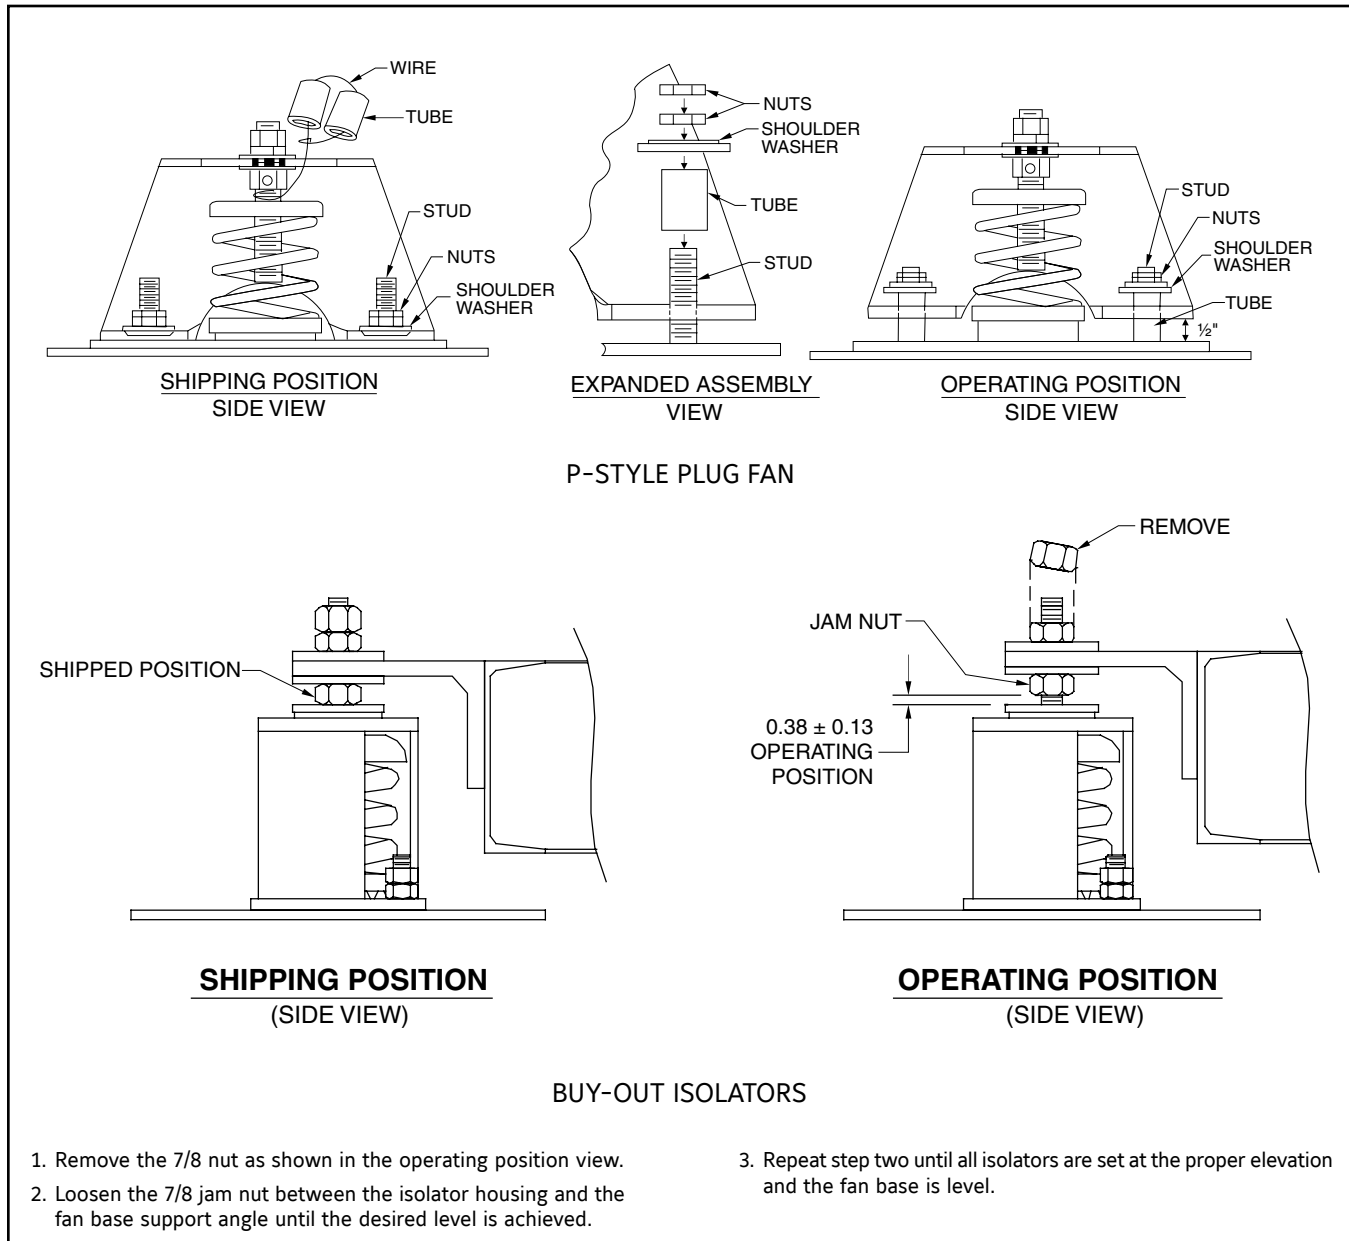

Figure 27 – Spring Isolator Setup
If fans are supplied with internal spring isolation, they will be bolted down (see Figure 27) for unit shipping. After the unit is in place, assembled and leveled, the fan mounts can be disassembled by removing two (2) nuts and one (1) washer from each side. Remove tubes from wire and discard wire.